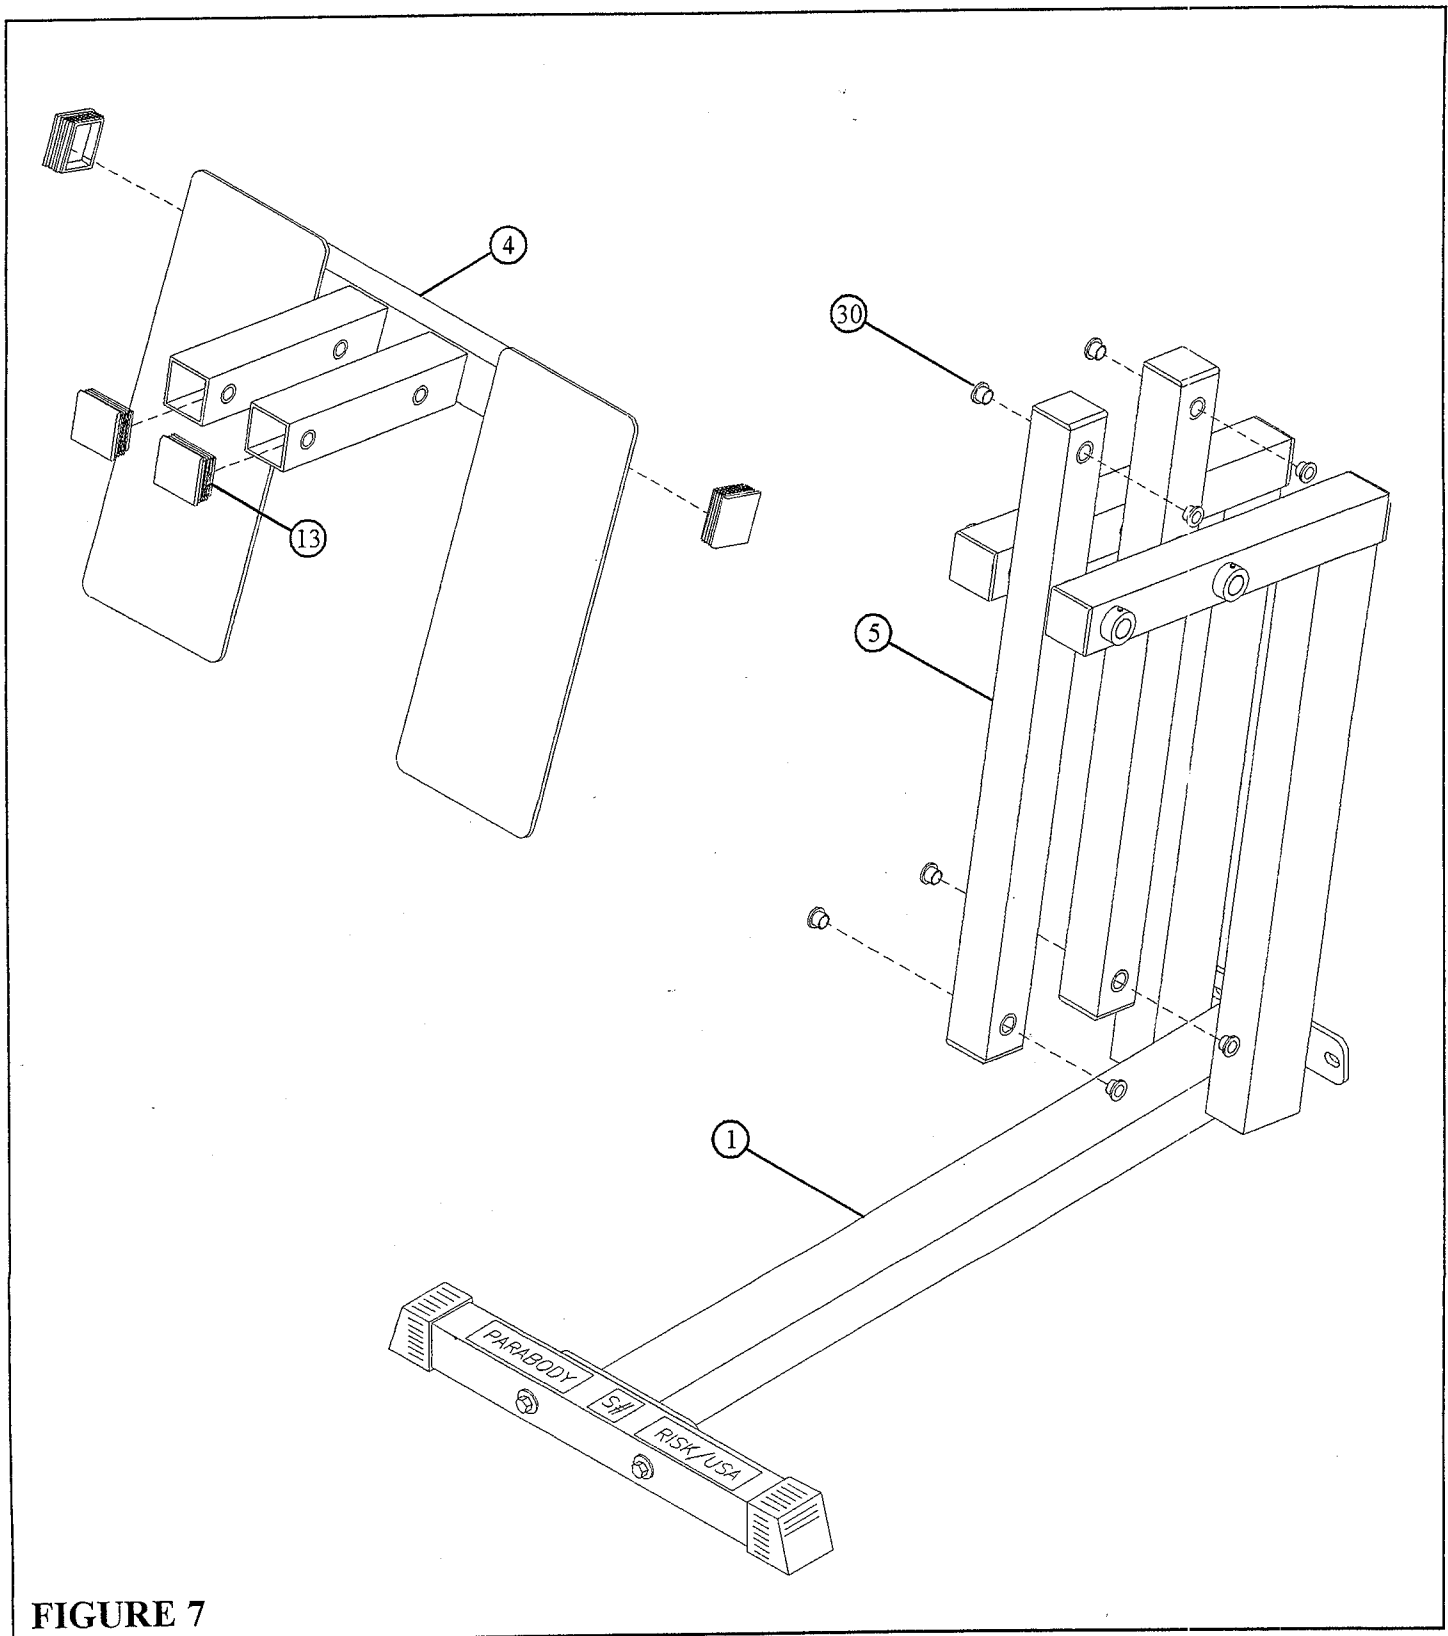

FIGURE 7
- Insert four 2" SQ. END CAPS (13) into the ends of FOOT PLATE (4) as shown in FIGURE 7.
- Insert eight 1/2" FLANGE BEARING (30) into the LEVER TUBES (5) as shown in FIGURE 7.